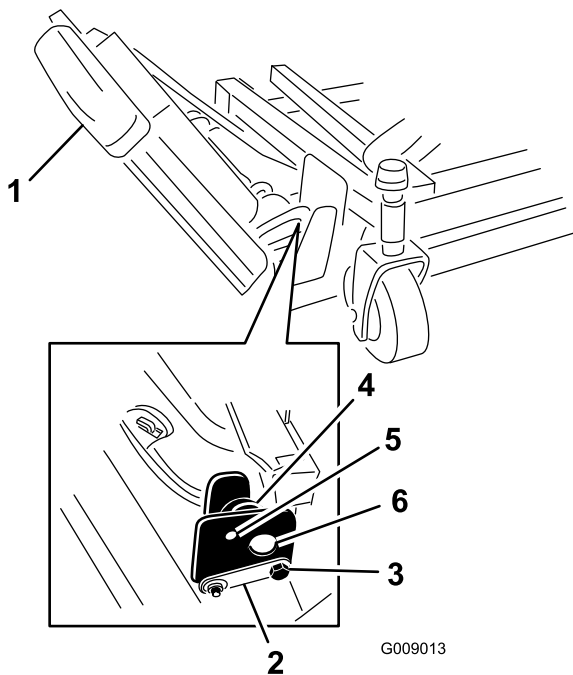

Figure 3
- Remove the nuts securing the front and rear stop bolts to the right winglet-deck mounts (Figure 3).
- While supporting the right winglet, remove the front and rear stop bolts from the deck mounts (Figure 3).